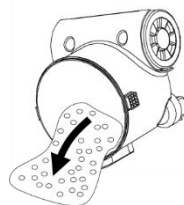

Figure 7
14. When the tank needs to be emptied, see Figure 7:
- b. Turn switch off (O) and unplug power cord.